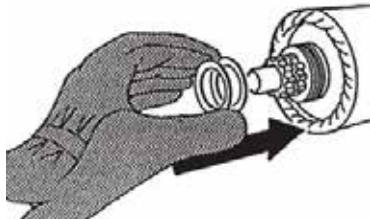

fig.119
6. Insert a number of shim washers onto the broach equal to the difference noted in point 5. (fig.119)